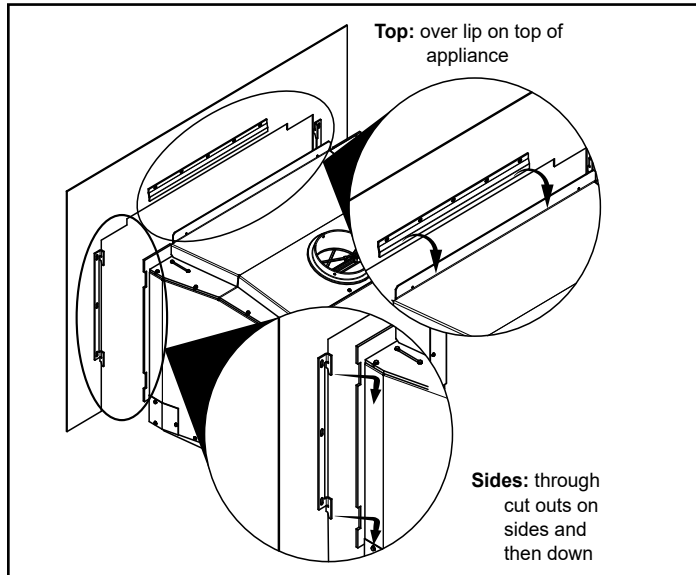

Figure 5.6
1. Lift surround to front of appliance (**Figure 5.6**)